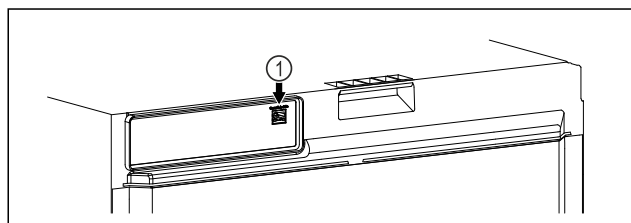

Fig. 103
- ❑ SmartModule Fig. 103 (1) is inserted.